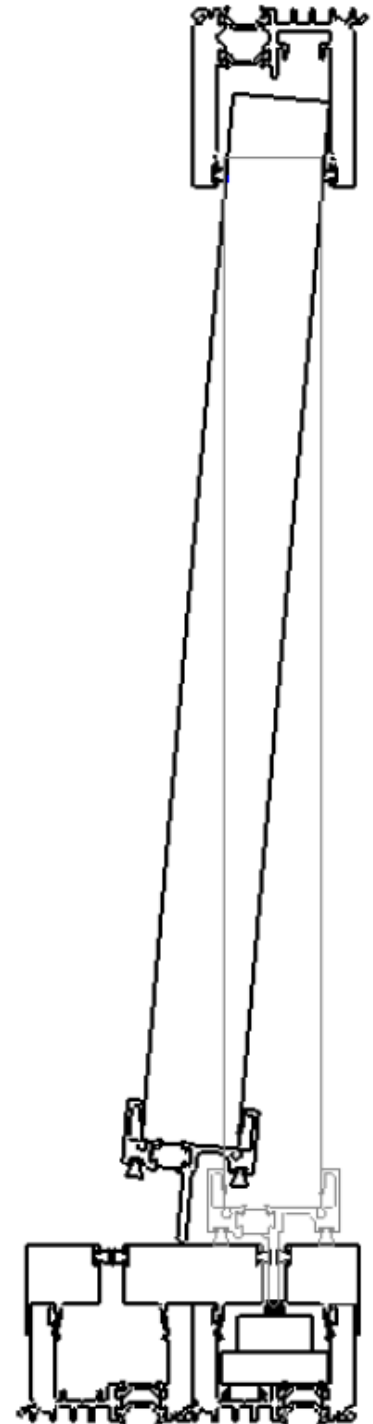

Figure 12
- Snap the fin on to the bottom of the lead panel with a soft mallet or dead blow hammer. The bottom of the panel will have the glass tempering mark "bug" located in the corner. See Figure 12